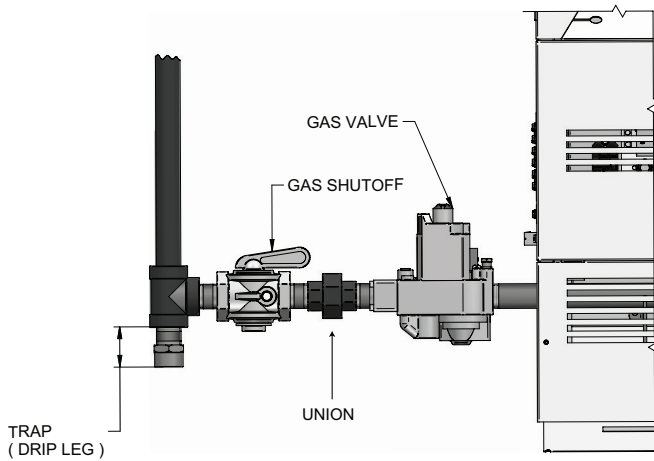

Figure 3-1 Gas Line Connection
3. Installation of a union is suggested for ease of service, see FIG. 3-1 on page 22.
5. A trap (drip leg) **MUST** be provided by the installer in the inlet of the gas connection to the appliance, see FIG. 3-1 on page 22.
All gas connections must be made with pipe joint compound resistant to the action of liquefied petroleum and natural gas. All piping must comply with local codes. Tubing installations must comply with approved standards and practices. Reference FIG. 3-1 for a typical installation.